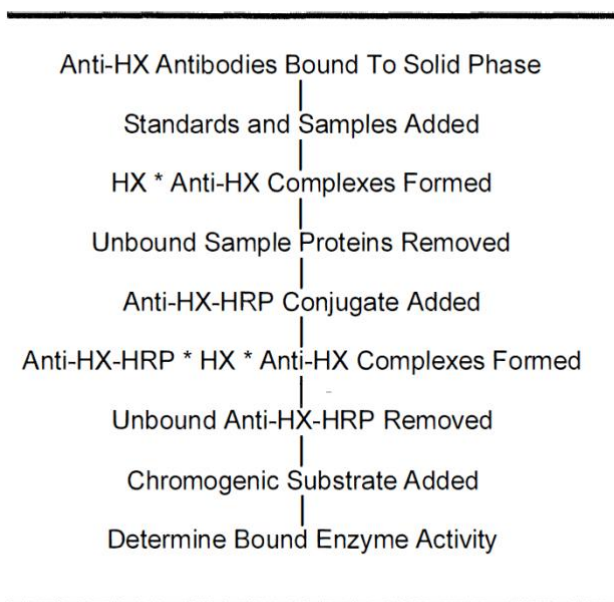

Figure 1
The principle of the double antibody sandwich ELISA is represented in Figure 1. In this assay the hemopexin (HX) present in samples reacts with the anti-HX antibodies, which have been absorbed to the surface of polystyrene microtiter wells. After the removal of unbound proteins by washing, anti HX antibodies conjugated with horseradish peroxidase (HRP) are added. These enzyme-labeled antibodies form complexes with the previously bound HX. Following another washing step, the enzyme bound to the immunosorbent is assayed by the addition of a chromogenic substrate, 3,3',5,5'-tetramethylbenzidine (TMB). The quantity of bound enzyme varies directly with the concentration of HX in the sample tested; thus, the absorbance, at 450 nm, is a measure of the concentration of HX in the test sample. The quantity of HX in the test sample can be interpolated from the standard curve constructed from the standards and corrected for sample dilution.